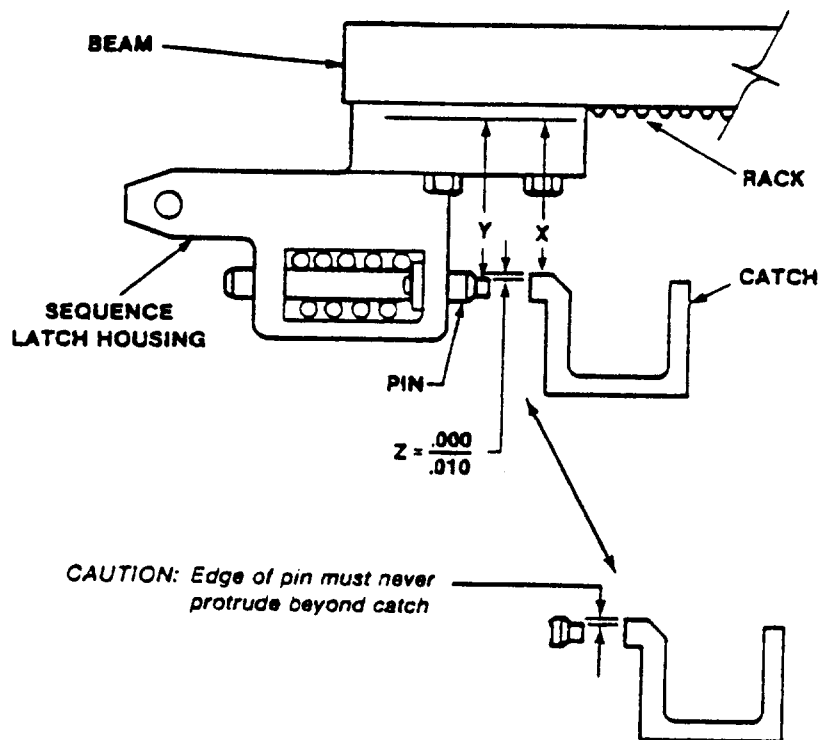

Figure 202 - Pin/Catch Relationship
- (1) Hand translate the translating structure forward and remove the sequence latch stop housing temporarily installed in 3.A.(2).
- (2) Using parallel blocks (L.S. Starrett No. 154C or equivalent) and micrometer, measure the distance between the inboard surface of the catch and the outboard surface of the rack teeth as shown in Figure 202. Record this dimension as X.